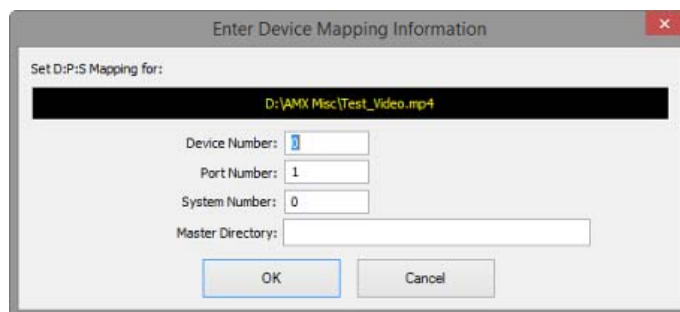

FIG. 166 NetLinx Studio 4 - Enter Device Mapping Information dialog
3. Click **Add** to select the video file you want to use: Select the video file in the *Open* dialog and click **OK** to invoke the *Enter Device Mapping Information* dialog (FIG. 166):